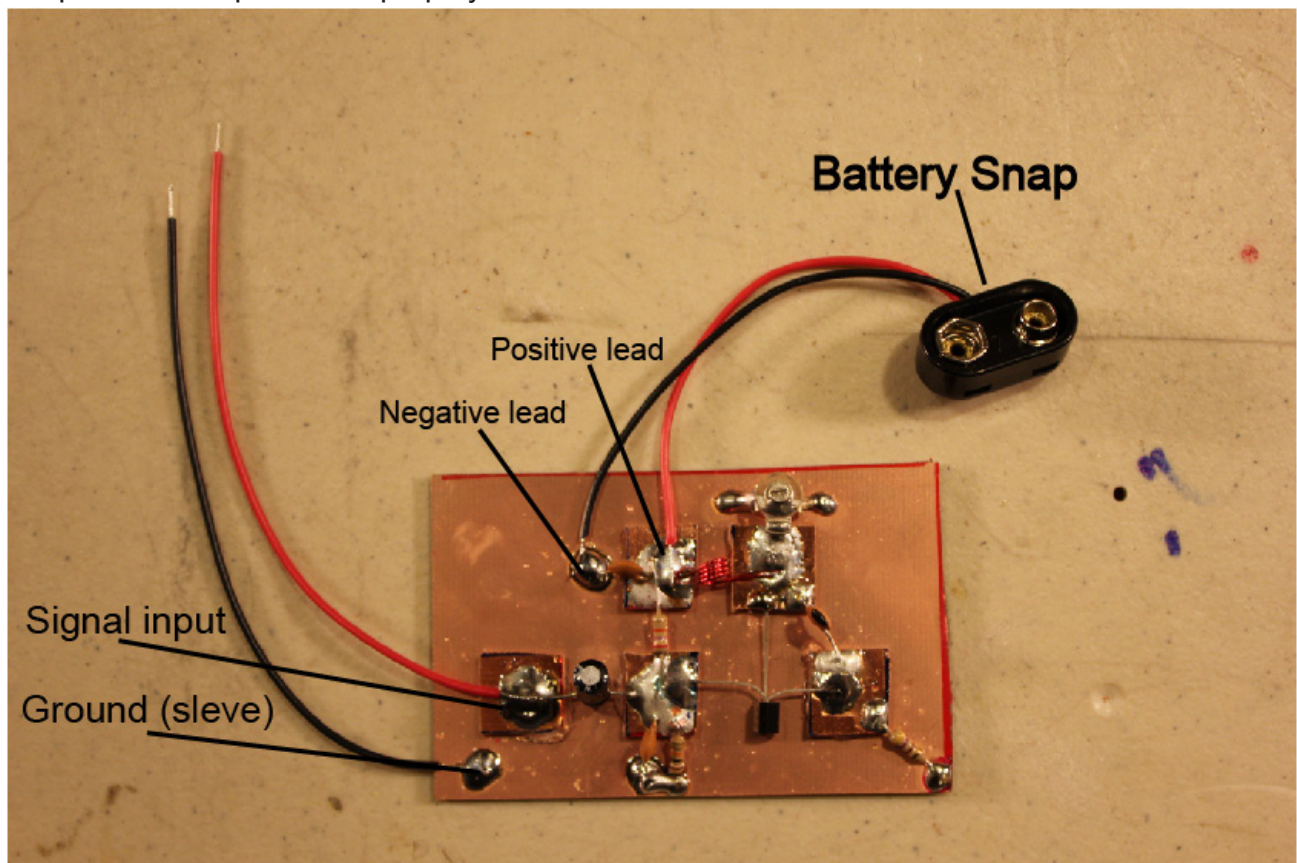

Figure 20
**9. Soldering the 9 volt battery snap and input wires (See figure 20)**